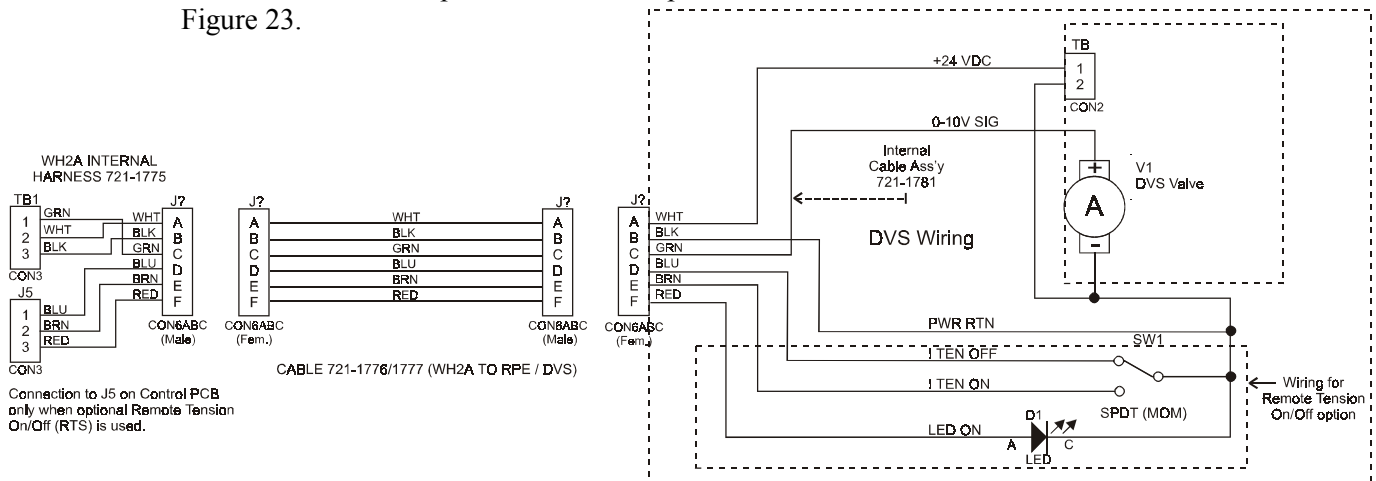

Figure 23 - NON-DFE PNEUMATIC DRIVER / DVS CONNECTIONS
1. Make sure the pneumatic unit is mounted securely and that the connecting cable is attached to both the controller and the pneumatic unit as specified in section 2.3.2. See electrical connections in Figure 23.